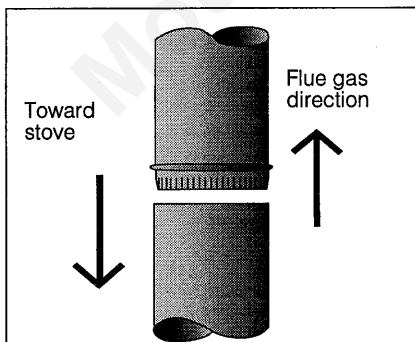

Fig. 4. The crimped end of the chimney connector should always point towards the stove. This layout keeps any condensed creosote inside the pipe system.
- Begin assembly at the flue collar of the stove. Insert the first crimped end into the stove's flue collar, and keep each crimped end pointing toward the stove. See Fig. 4. Using the holes in the flue collar as guides, drill 1/8" (3 mm) holes in the bottom of the first section of chimney connector and secure it to the flue collar with three #10 x 1/2" sheet metal screws.